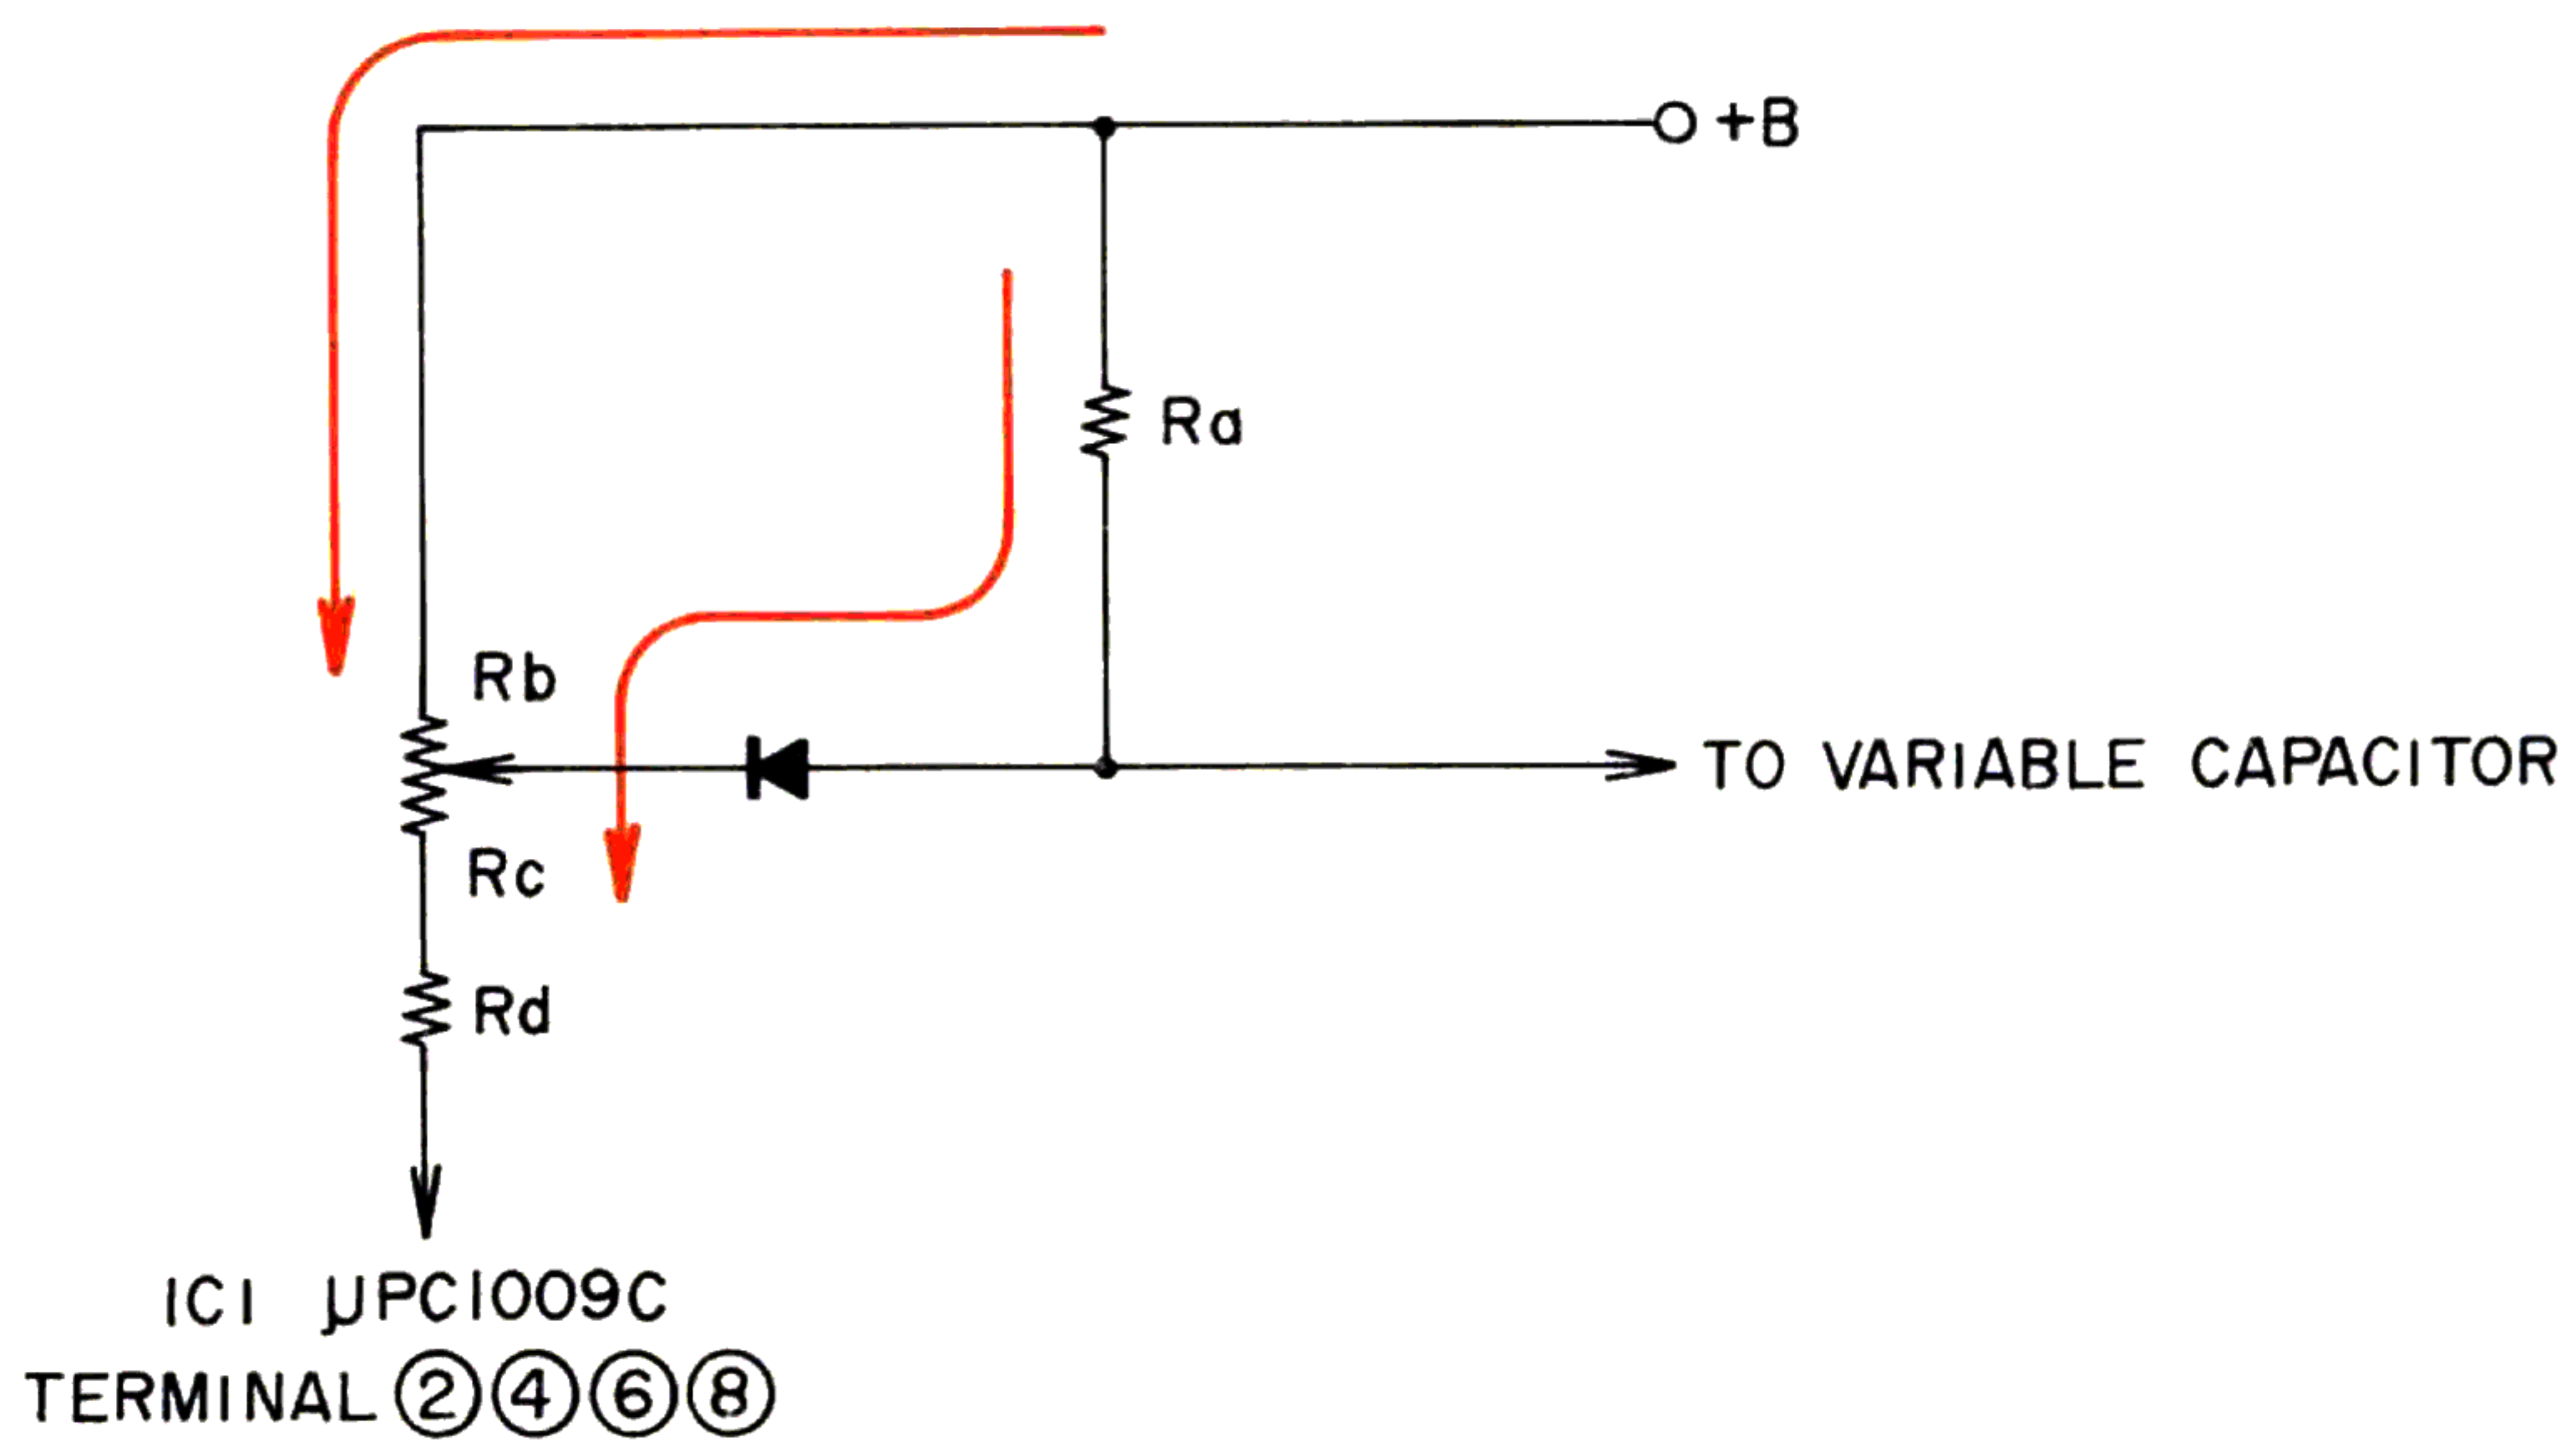

Fig. 24
Then, the impedance is lowered at IC station selector output terminal ② and current flows as shown by the arrow marks in Fig. 24. Consequently, because the supply voltage to the varactor tuner diode is changed by the dividing ratio of R_b and R_c , station selection is possible by means of setting the preset volumes beforehand according to the desired broadcast frequencies.